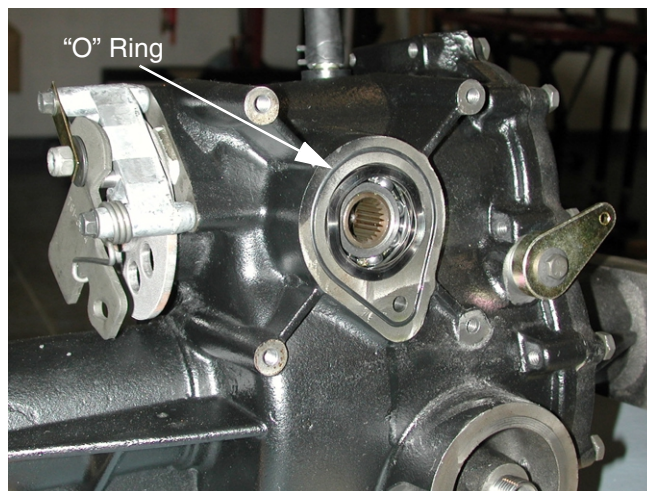

Figure 12
16. Remove and replace the large "O" ring from the transmission housing. See Figure 12.